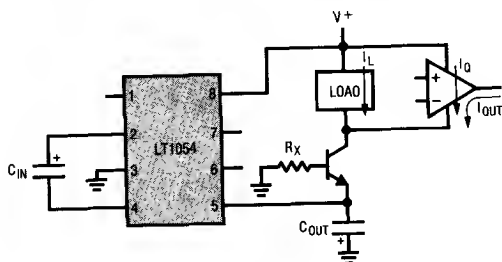

Figure 3
**VOUT (Pin 5):** In addition to being the output pin, the pin is also tied to the substrate of the device. **Special care must be taken in LT1054 circuits to avoid pulling this pin positive with respect to any of the other pins.** Pulling Pin 5 positive with respect to Pin 3 (GND) will forward bias the substrate diode which will prevent the device from starting. This condition can occur when the output load driven by the LT1054 is referred to its positive supply, (or to some other positive voltage). Note that most op amps present just such a load, since their supply currents flow from their V+ terminals to their V- terminals. To prevent start-up problems with this type of load, an external transistor must be added as shown in Figure 3. This will prevent VOUT
\*SEE FIGURE 3